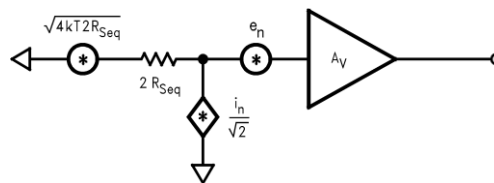
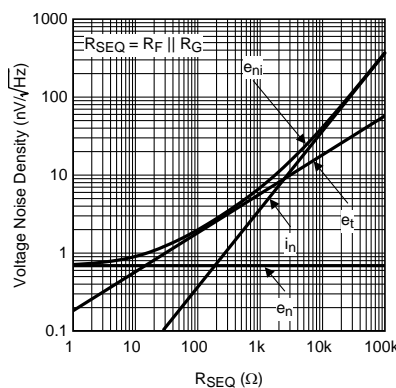

Figure 12. Noise Model with $R_f || R_g = R_{seq}$
Figure 13. Voltage Noise Density vs. Source Resistance
Figure 12 illustrates the equivalent noise model using this assumption. Figure 13 is a plot of e_{ni} against equivalent source resistance (R_{seq}) with all of the contributing voltage noise source of Equation 4. This plot gives the expected e_{ni} for a given (R_{seq}) which assumes $R_f || R_g = R_{seq}$ for bias current cancellation. The total equivalent output voltage noise (e_{no}) is $e_{ni} * A_V$.
As seen in Figure 13, e_{ni} is dominated by the intrinsic voltage noise (e_n) of the amplifier for equivalent source resistances below 15Ω. Between 15Ω and 2.5 kΩ, e_{ni} is dominated by the thermal noise ($e_t = \sqrt{4kT(2R_{seq})}$) of the equivalent source resistance R_{seq} ; incidentally, this is the range of R_{seq} values where the LMH6629 has the best (lowest) Noise Figure (NF) for the case where $R_{seq} = R_f || R_g$.
Above 2.5 kΩ, e_{ni} is dominated by the amplifier's current noise ($i_n = \sqrt{2} i_{nR_{seq}}$). When $R_{seq} = 190\Omega$ (i.e., $R_{seq} = e_n / \sqrt{2} i_n$), the contribution from voltage noise and current noise of LMH6629 is equal. For example, configured with a gain of +10V/V giving a -3dB of 825 MHz and driven from $R_{seq} = R_f || R_g = 20\Omega$ ($e_{ni} = 1.07 \text{ nV}/\sqrt{\text{Hz}}$ from Figure 13), the LMH6629 produces a total equivalent output noise voltage ($e_{ni} * 10 \text{ V/V} * \sqrt{1.57 * 825 \text{ MHz}}$) of 385 μV_{rms} .